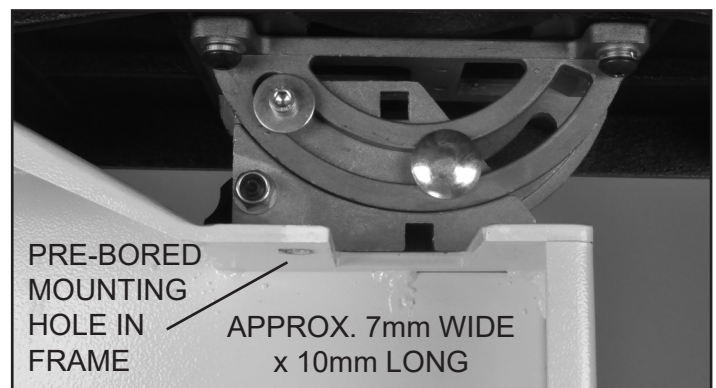

FIGURE 4
5. With the old, lower blade guide and guard assembly removed, make sure that the lower frame area and pre-bored hole(s) is clean of any sawdust or residue left from past saw usage. Figure 4.
7. Position the Guide Assembly onto the lower frame with the small alignment pin/screw, that is on the bottom of the connecting plate, set into the pre-bored hole in the frame. Figures 4, 4A and 5.
NOTE: On older models of the 10-325 Bandsaws, the pre-bored mounting hole in the frame (Figure 4) may not be an oval shape to accept both connecting Hex Socket Cap Screw and Alignment Pin that are on the underside of the Retrofit Guide's Connecting Plate. If this is the case, the new lower Tool-less Guides cannot be assembled onto the frame. To solve this, there are 2 options (Option A is recommended):
- B. With a metal twist drill, rotary burr or round file, enlarge the mounting hole to accept both the screw and pin. Make sure that any metal burrs from the process are removed from the frame. Figure 4.